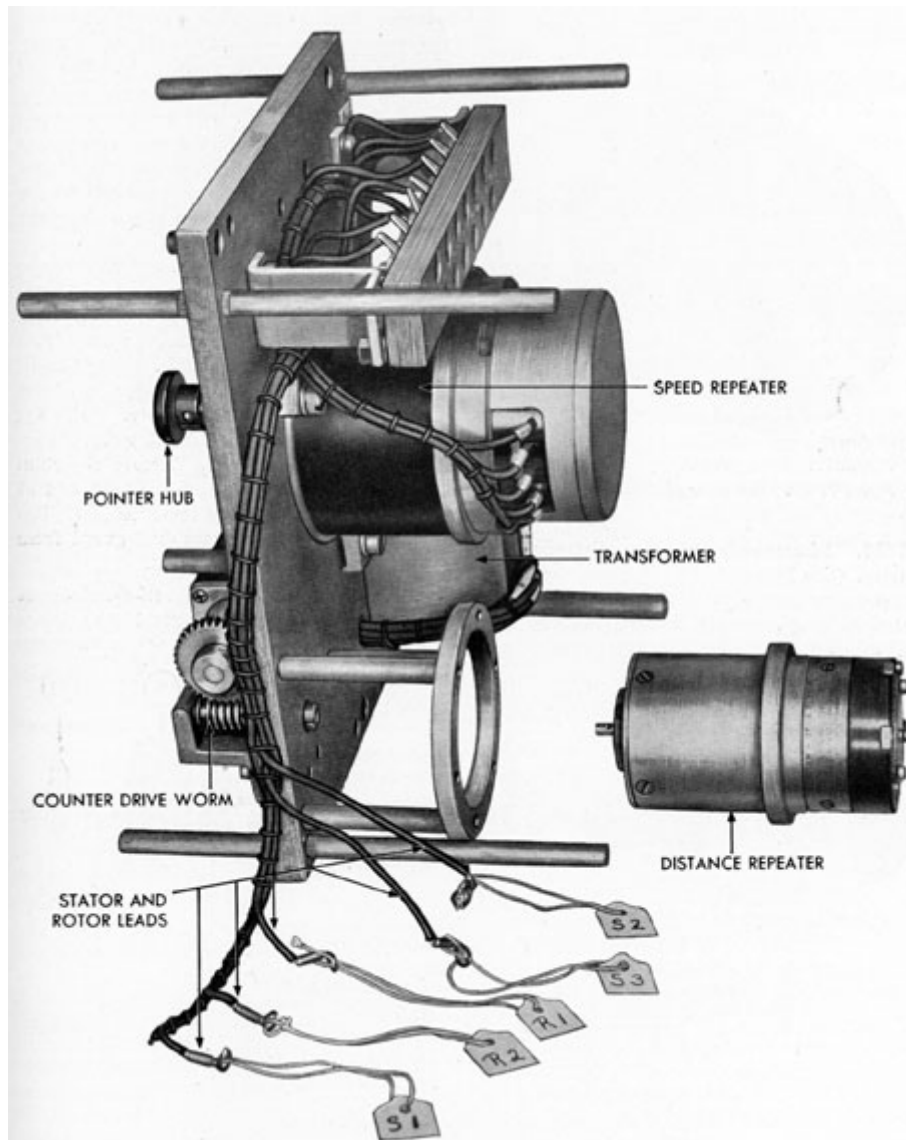

Figure 13-21. Self-synchronous distance repeater removed.
**13F17. Removing the self-synchronous distance repeater.** (See Figures 13-21 and 13-22.) Remove the unit from its case. Remove the terminal screws and washers that secure the lead wires to the distance repeater. Tag the
**13F20. Installing.** The self-synchronous distance repeater. (See Figure 13-21.) Connect the stator and rotor lead wires to the terminal ring of the distance repeater. Tighten the terminal screws securely. Align the pin on the front end of the rotor shaft with the slot provided in the worm shaft extension, and place the distance repeater in position on the